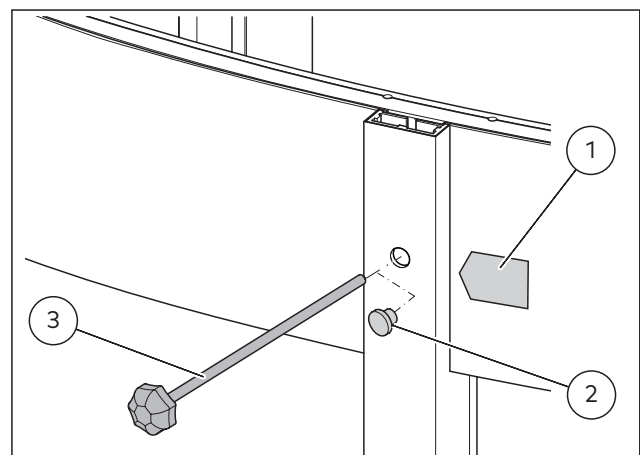

Fig. 8 Locking pin
2. Remove the plug (Fig. 8/2) in the left inner post to access the locking pin.
The position of the plug is indicated by a sticker (Fig. 8/1). The sticker also contains instructions for unlocking the electromechanical locking device.
3. Use the rod (Fig. 8/3) to push the locking pin back into the rotating ceiling.